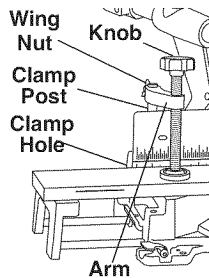

Figure 19. Workpiece Clamp
**Clamps** - The clamp easily secures a workpiece in either of two (2) clamp holes behind the fence (Figure 19 & 19a).